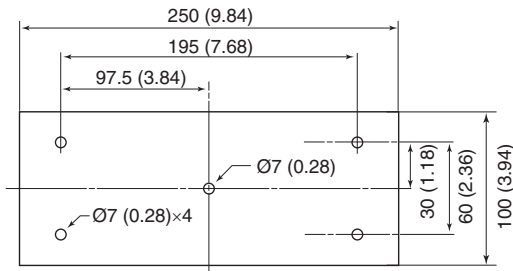

Fig. 1
- ① Hold the mounting bracket up to the selected location and mark pilot holes for the five installation holes using the template.
- ② Drill five holes, 3 mm (0.12 in) in diameter as shown in the diagram. (Fig. 1)